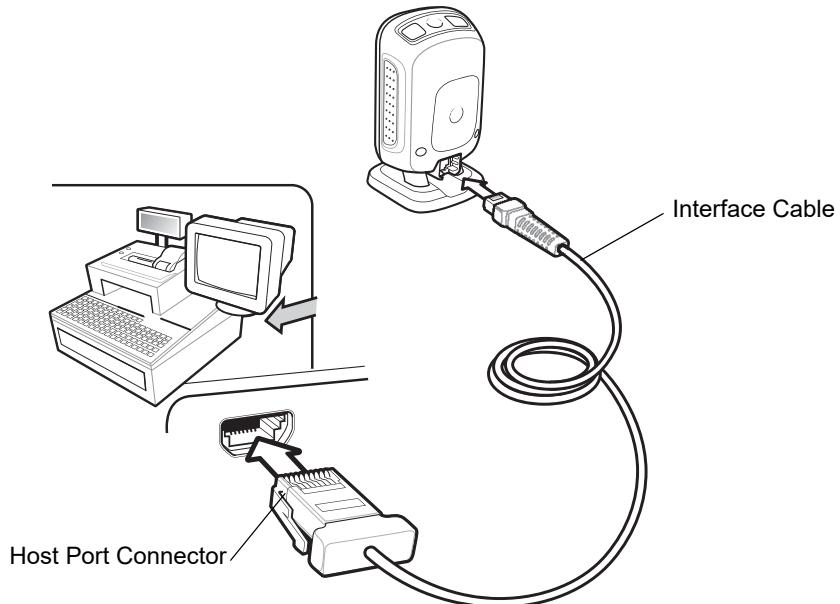

Figure 8-1 IBM Direct Connection
- ✓ **NOTE** Interface cables vary depending on configuration. The connectors illustrated in *Figure 8-1* are examples only. The connectors may be different than those illustrated, but the steps to connect the digital scanner are the same.